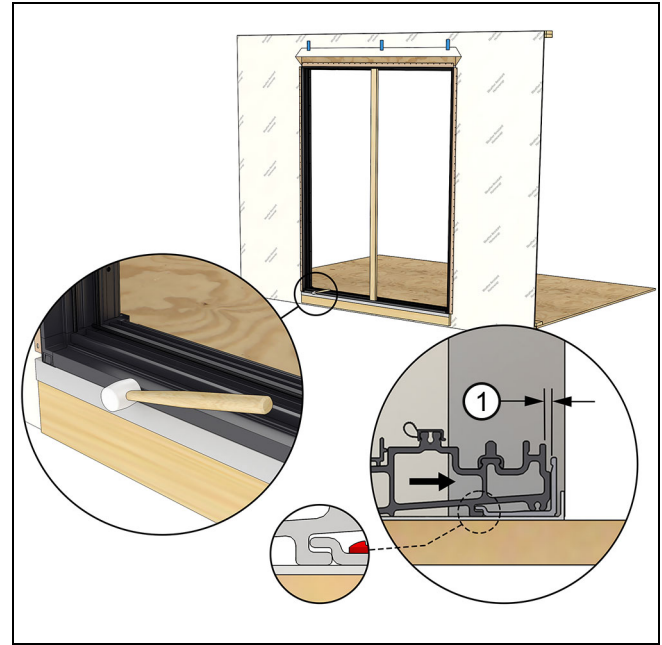

Figure 40
5. Use a rubber mallet to engage the sill into the sill support bracket completely. See Figure 40.